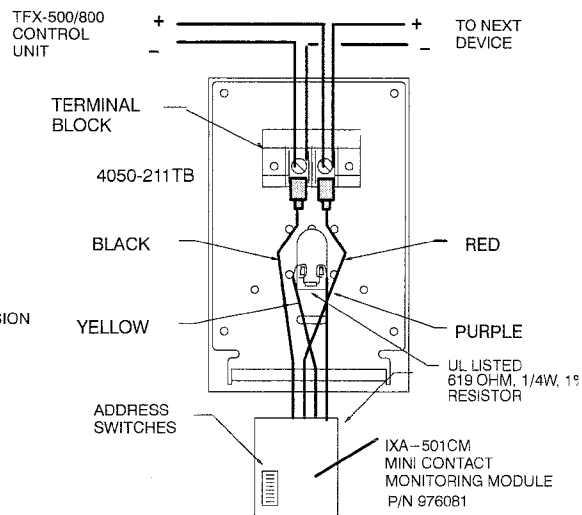

Figure 4. 4050-211TB with optional IXA-501CM Mini Contact Monitoring Module for application to TFX-500/800 addressable loop.
**WIRING NOTES—Model 4050-211TB (with optional IXA-501CM Contact Monitoring Module—Figure 4)**